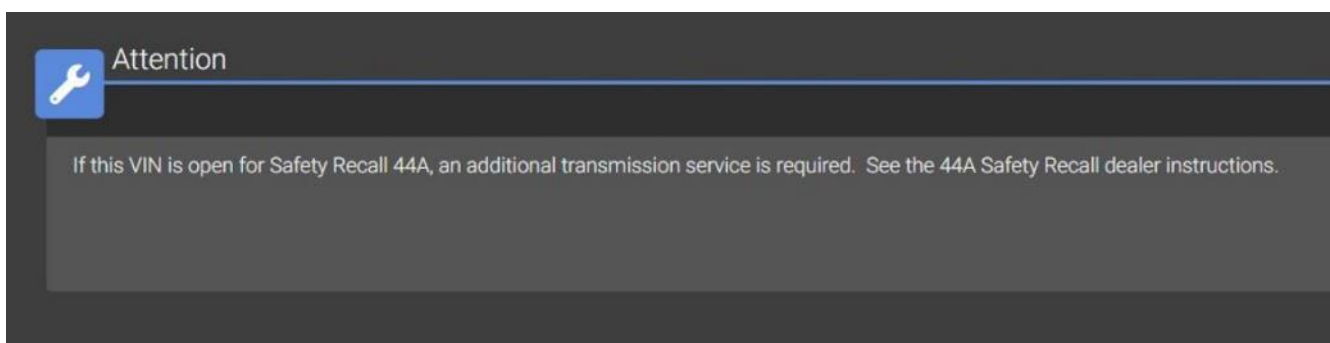

Figure 1 – wiTECH Popup Message
7. Did a wiTECH message pop-up appear stating “**If this VIN is open for Safety Recall 44A, an additional transmission service is required. See the 44A Safety Recall dealer instructions.**”? (Figure 1)
15. Did a wiTECH message pop-up previously appear (Step 7 Figure 1) stating “**If this VIN is open for Safety Recall 44A, an additional transmission service is required. See the 44A Safety Recall dealer instructions.**”?